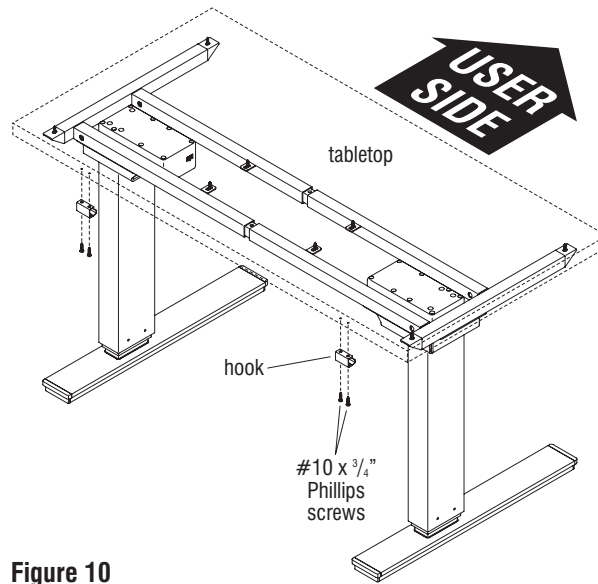

Figure 10
1. Carefully turn table to the upright position (Figure 10).
2. Position one hook underneath the back, non-user side of the tabletop at the pre-drilled location as illustrated in Figure 10 & Detail I. Orient the hook to face the user side of the table. Align the mounting holes of the hook with the pre-drilled holes underneath the tabletop and secure using two #10 x 3/4" Phillips screws. Repeat this process to secure the remaining hooks to the table (Figure 10 & Detail I).